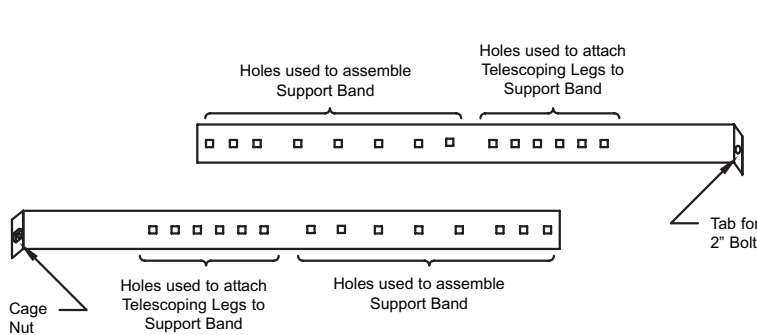

Figure 1 Support Band Holes Identifier
B. The Band is From the single row of holes (see Figures 1 and 2), select the hole in each half that corresponds to the outside diameter identified with the chimney being installed. Place the two halves together. Insert an elevator bolt through the chosen holes (Ex - for a 10" OD chimney, place the elevator bolt through the holes identified for 10" OD). The elevator bolt should be oriented as shown in Figure 3. Secure the center bolt with washers and 1/4" flanged nut (see Figure 3). NOTE: On smaller diameter chimneys the excess band material can be cut off.